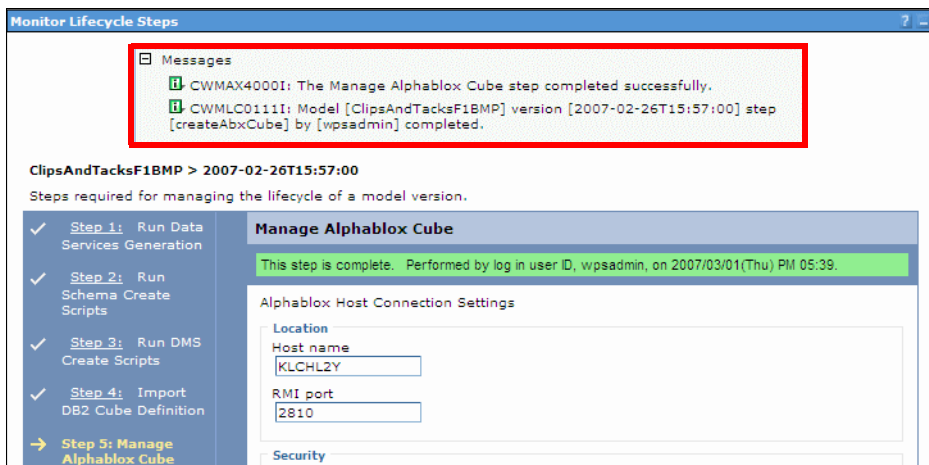

Figure 14-18 Monitor life cycle: Step 5 completed successfully
- ▶ The administrative console will refresh and display messages indicating that this step has completed successfully (Figure 14-18).